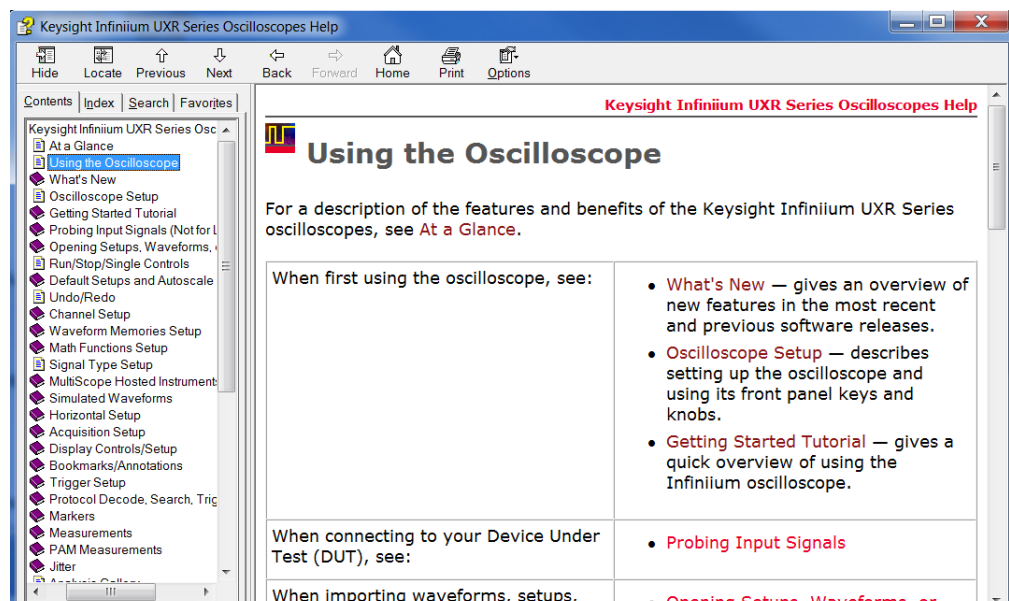

Figure 23 Online Help home page
- Choose **Help > Help Contents...** from the main menu to open the online help home page (Figure 23).